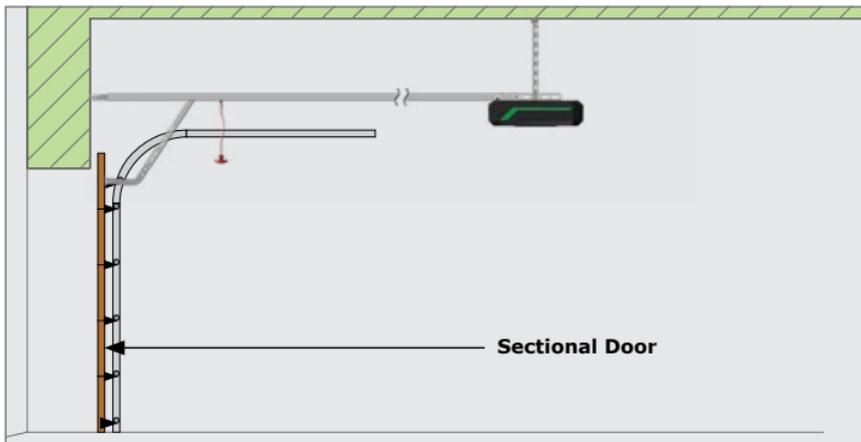

FIGURE 4. SECTIONAL STANDARD DOORS
- The drive rail must be perpendicular to the door as shown in Figure 4